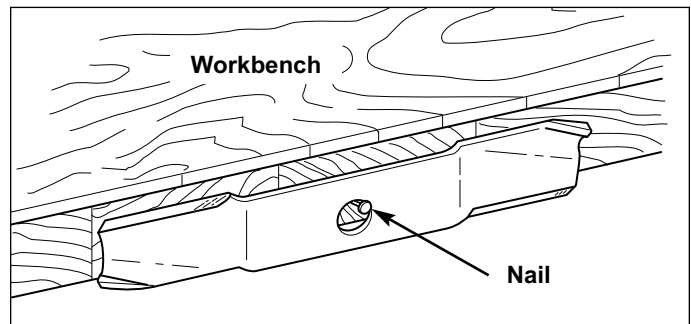

Figure 23. Balancing The Blade
5. Balance the blade as shown in Figure 23. Center the blade's hole on a nail lubricated with a drop of oil. A balanced blade will remain level.